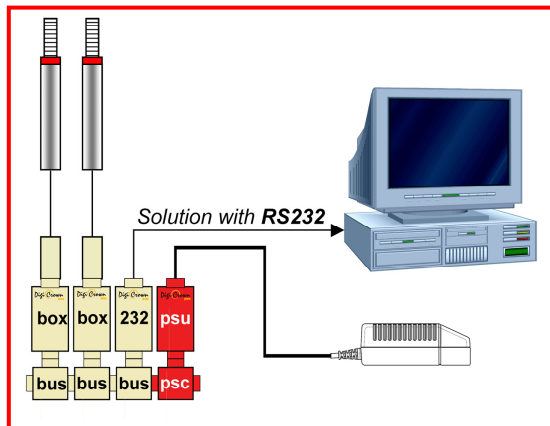

Fig. 2
- the network management is achieved with an RS-232 serial standard by means of a *DigiCrown 232/USB* module (Fig. 2);